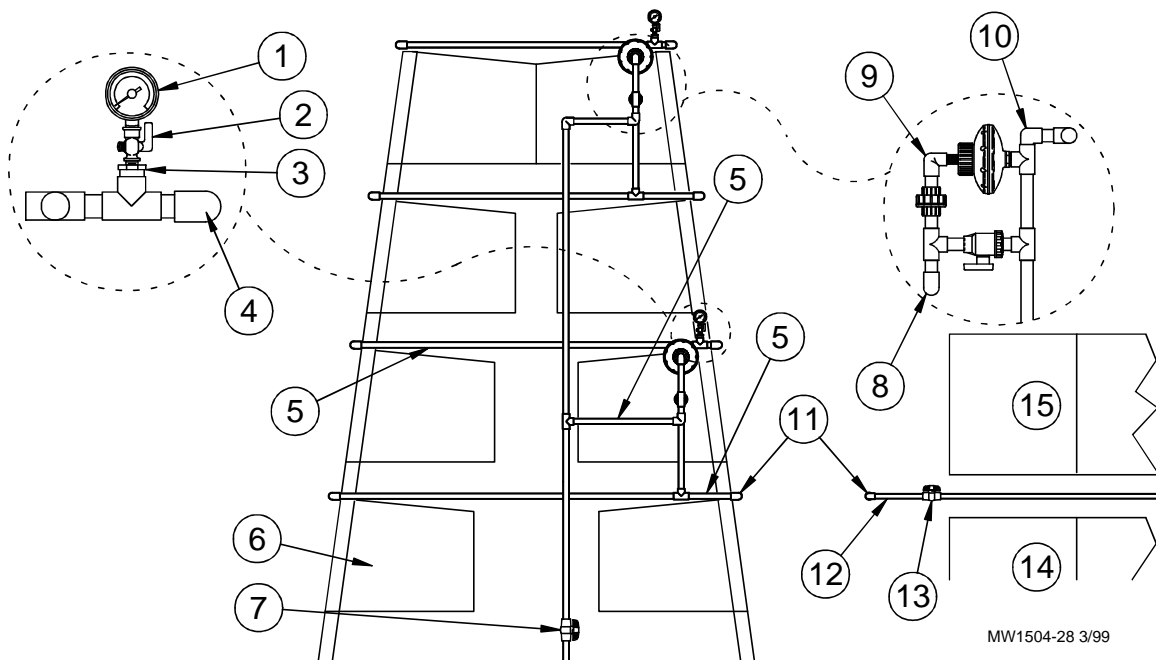
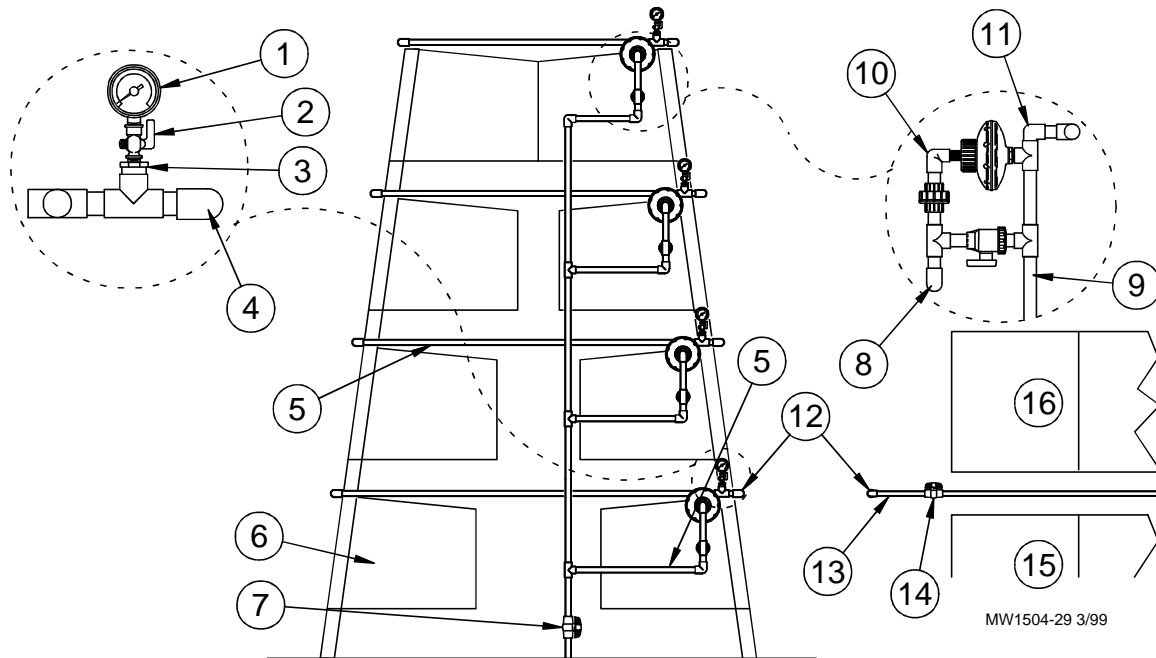

Figure 3
Figure 4
K-Valve installations: **Figure 3** shows the recommended cage manifold assembly and installation for systems up to 600 ft. (183 m). For systems over 600ft (183 m), refer to **Figure 4**.
**NOTE:** A 3/4" Ball Valve, see **Figure 3**, must be installed in the supply line from filter control panel **BEFORE** any cage lines are supplied with water. This valve will enable the water supply to be shut off for an entire cage row. If optional gauges are to be used on each line, install as shown. A pressure gauge is supplied with each Regulator Assembly. Locate the gauge and position it on the top line of the two tiers being regulated (under 600 feet cage row length) where it can be read conveniently.
**IMPORTANT:** A Lever Handle Valve **MUST** be installed below each pressure gauge, see **Figure 3**. Close Lever Handle Valve during high-pressure flushing. Any water pressure above 15 psi applied to gauge will destroy the gauge.
For cage rows over 600' in length, install the manifold components as shown in **Figure 4**. Notice the 3/4" supply line supplies the entire cage row, but water pressure is controlled by an Inlet Assembly which supplies a maximum of one tier. A 3/4" Tee must be located after the Inlet Assembly to supply both sides of each tier. Install a 1/2" Ball Valve on each water line.